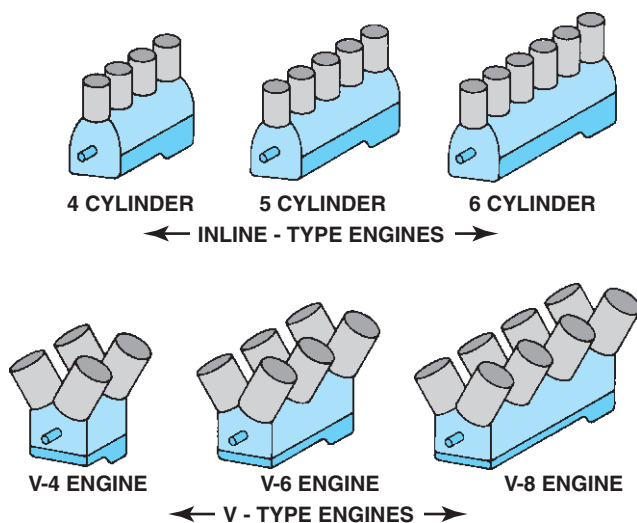

FIGURE 10-7 Automotive engine cylinder arrangements.
- **Cylinder arrangement.** An engine with more cylinders is smoother operating because the power pulses produced by the power strokes are more closely spaced. An inline engine places all cylinders in a straight line. Four-, five-, and six-cylinder engines are commonly manufactured inline engines. A V-type engine, such as a V-6 or V-8, has the number of cylinders split and built into a V-shape. See Figure 10-7 on page 119. Horizontally opposed four- and